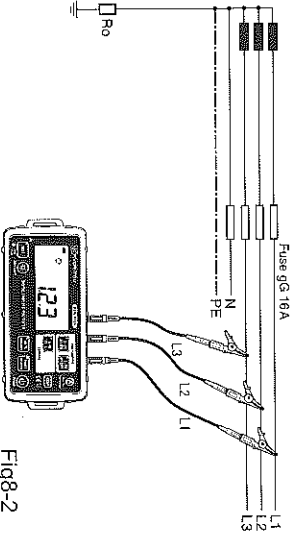

Fig. 8-2
3. Connect each test leads to a circuit. (Fig. 8-2)